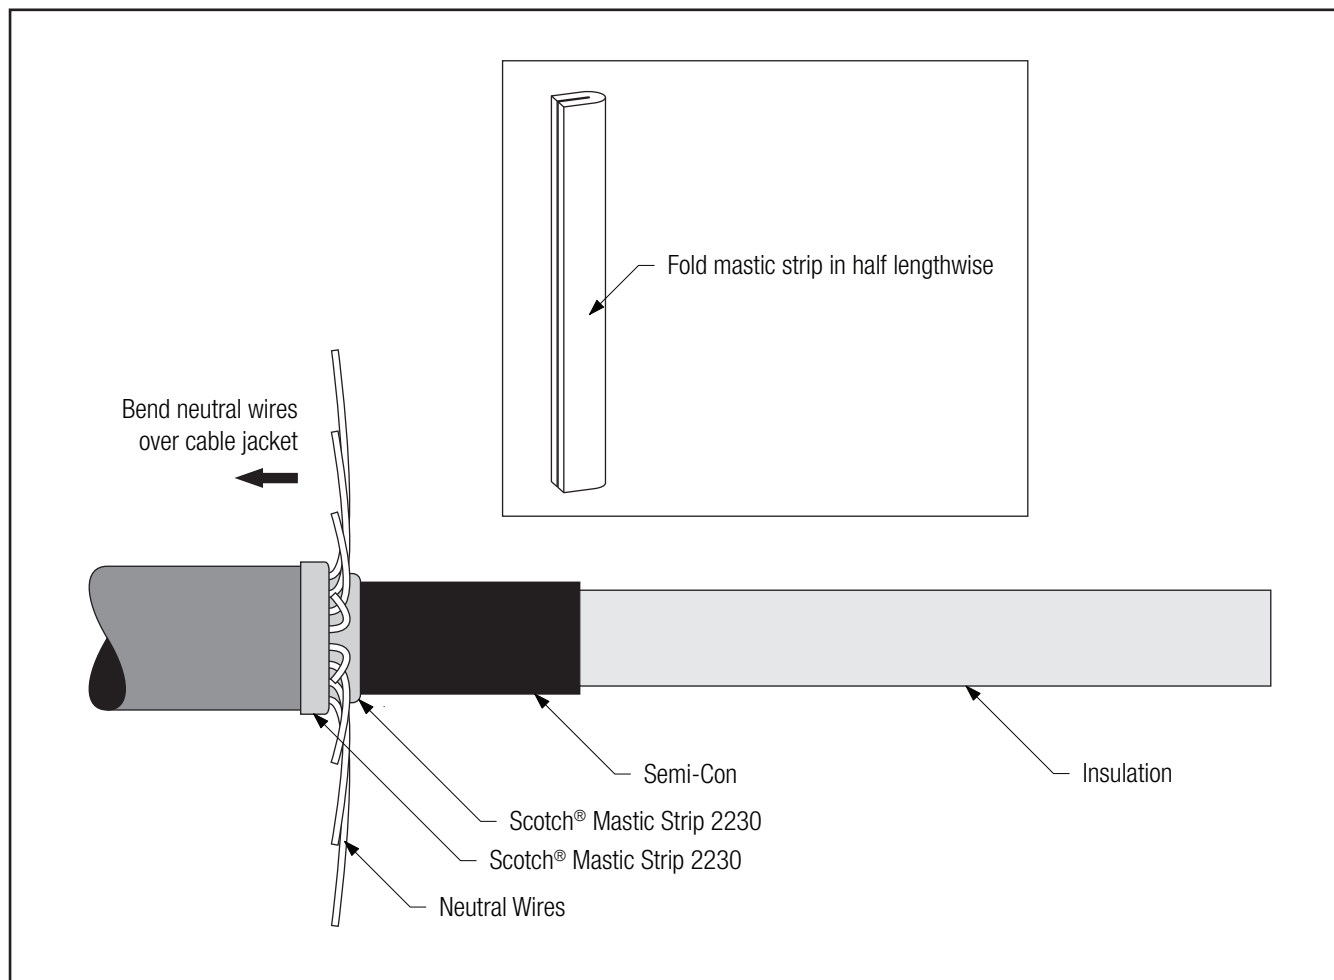

Figure 3
- 2.5 Carefully bend the cut neutral wires up and away from the cable semi-con. Fold neutral wires over cable jacket, **taking care to keep wire profile low by following the concentric turn in the cable**. Secure the ends of the neutral wires with one wrap of vinyl tape. Fold one Scotch® Mastic Strip 2230 in half lengthwise and apply one wrap only at cable jacket edge under the neutral wires (*Figure 3*). Knead mastic around neutral wires.